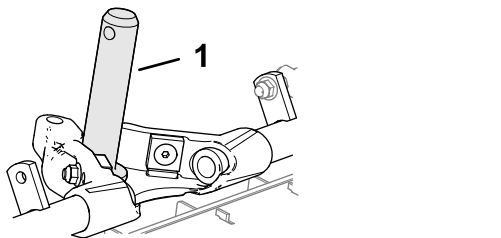

Figure 14
2. Coat the carrier-frame shaft with clean grease (Figure 14).